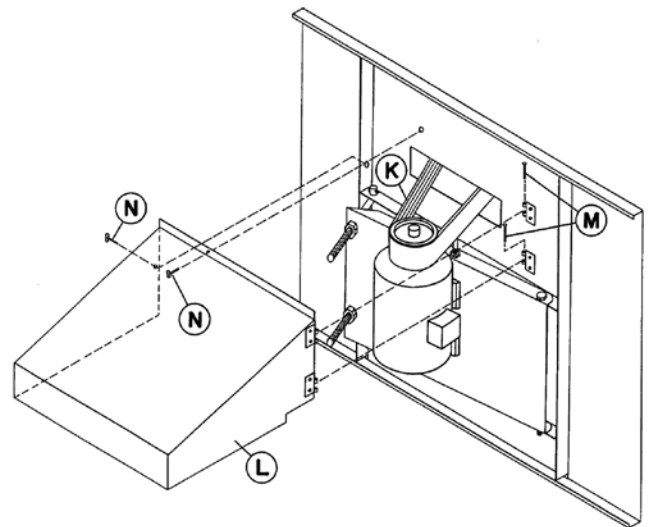

Figure 25 – Motor guard and powerband belt installation
7. Install Powerband belt **K** (Figure 25) around fan sheave and motor sheave. Tighten belt by adjusting nuts on "J" bolts. Do not over tighten the belts. The center of the belt should deflect approximately 3/4" (19 mm) with moderate hand pressure.
10. To install Motor Guard **L**, match up hinges and install hinge pins **M**. (See Figure 25.)
11. Close Motor Guard and install (2) wing bolts **N**.